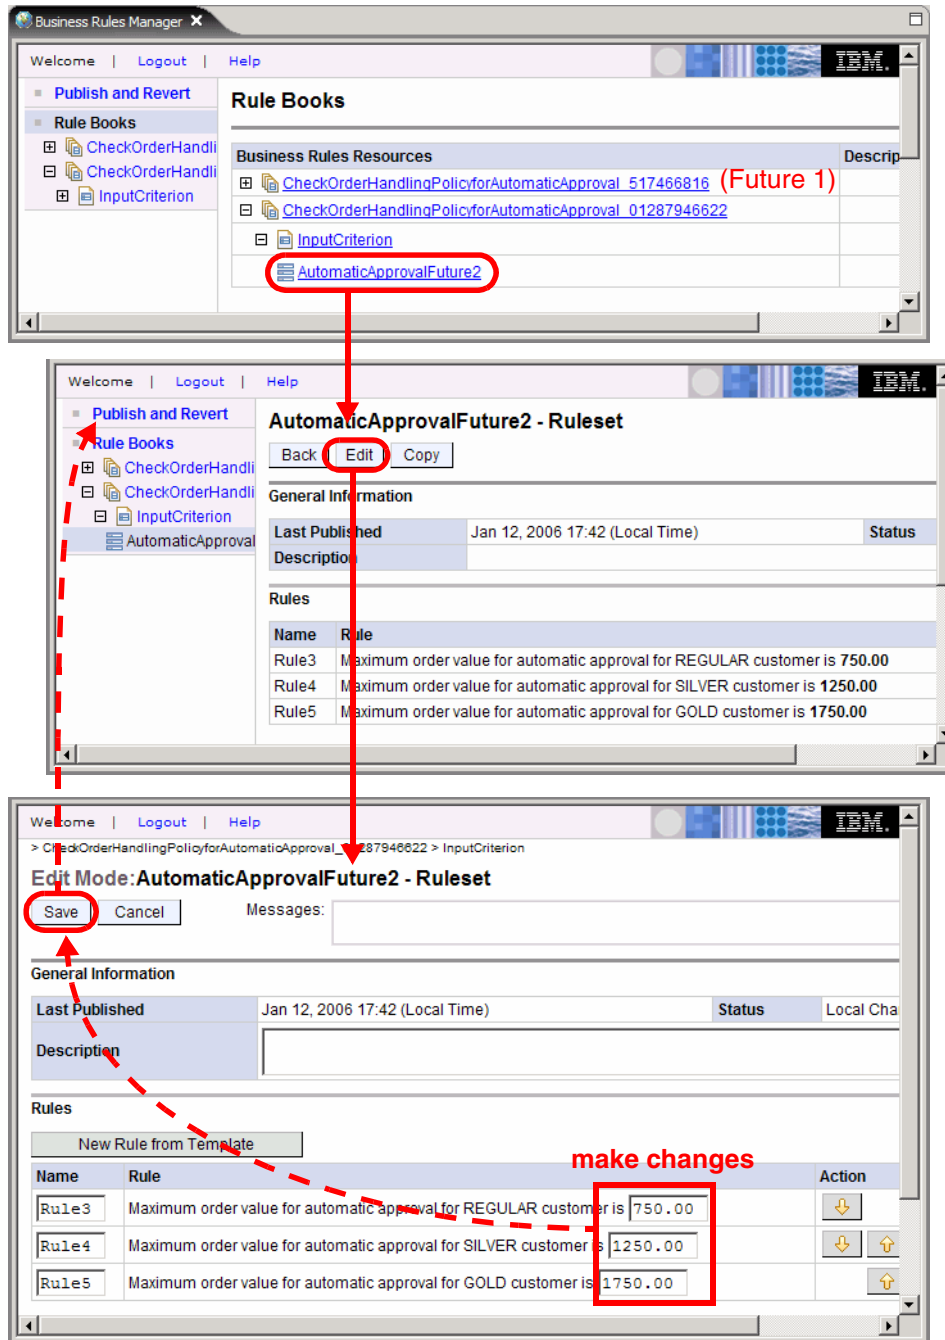

Figure 15-10 Using the Business Rules Manager
- ▶ Expand the sections and select *AutomaticApprovalFuture2* (Figure 15-10).
See Figure 15-10 on page 386 for instructions on how to change the rules.